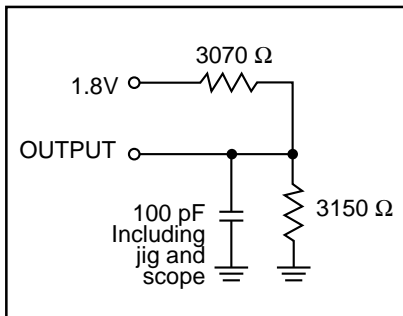

Figure 1.
Output Load	See Figures 1 and 2
1. Test conditions assume signal transition times of 5 ns or less, timing reference levels of 0.9V, input pulse levels of 0.4 to 1.8V and output loading specified in Figure 1.
1. Test conditions assume signal transition times of 5 ns or less, timing reference levels of 0.9V, input pulse levels of 0.4V to 1.8V and output loading specified in Figure 1.